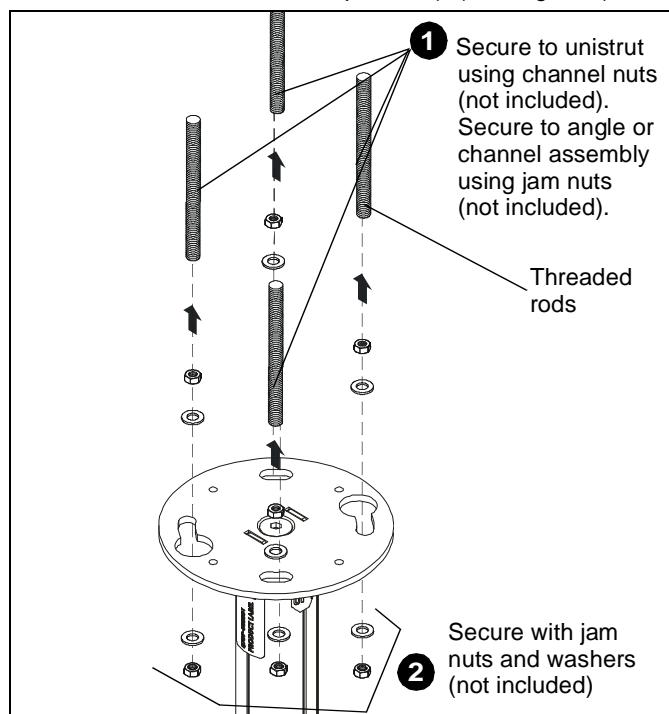

Figure 7
2. Secure the threaded rods to the CPA mount with 3/8" jam nuts (not included) and washers (one of each on inside and one of each on outside-not provided). (See Figure 7)